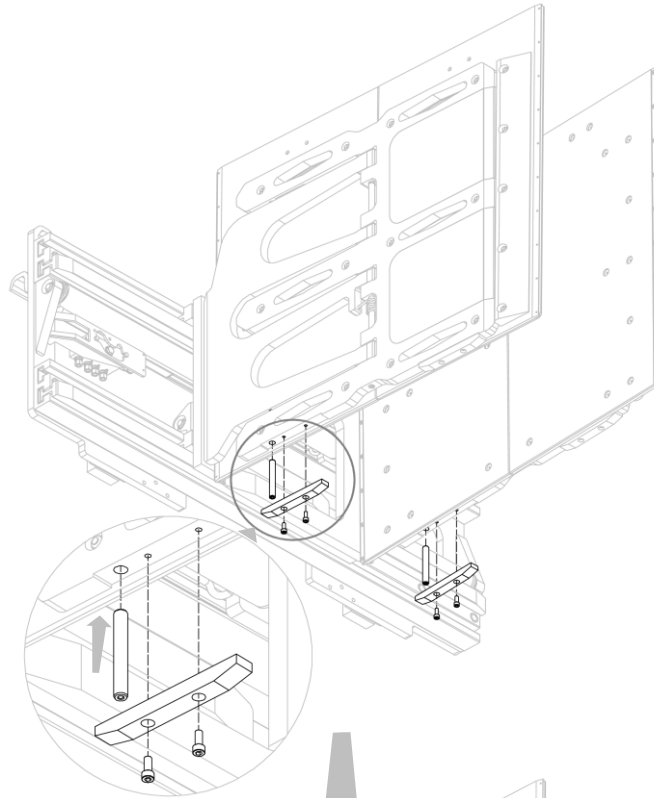
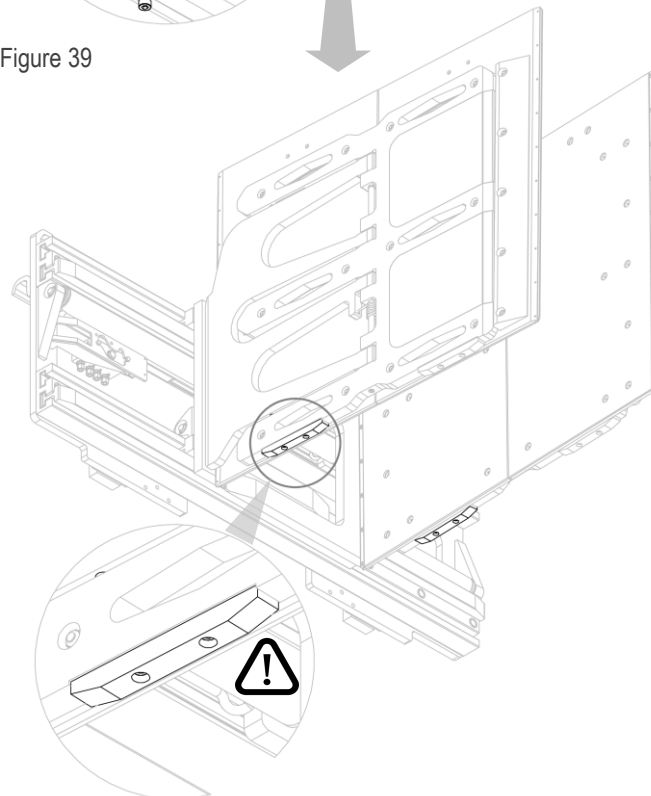

Figure 39
Figure 40
3. Insert the lower swing stop pins, one at a time, after temporarily removing the anti-slip pads (see *Figure 39* and *Figure 40*).